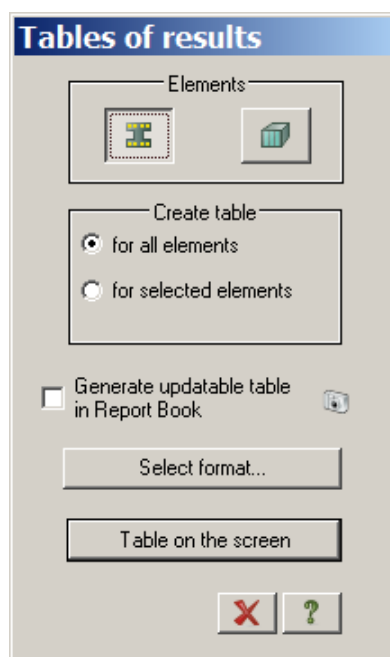

Figure 1.23 **Tables of analysis results** dialog box
- ⇒ In the **Tables of analysis results** dialog box (see Fig.1.23), the following data is mentioned by default: **Reinforcement in bars** option in the **Elements** area and option **For all elements** in the **Create table** area.